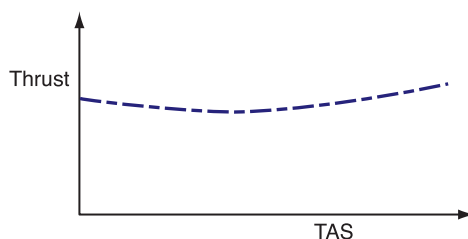

Figure 1–8 Thrust of a jet engine.
- 1.13** As the velocity of a jet engine increases from zero the difference between the relative airflow velocity and the jet exhaust velocity reduces leading to reducing thrust (less acceleration of the air mass flow). However, while the overall acceleration of the air mass flow is decreasing, compression of the relative airflow at the engine intake increases the mass flow rate through the engine. The net result is a slow decrease in the thrust to a certain speed before recovering due to the proportionally larger increase in air mass flow. For practical purposes, the thrust of the engine is essentially constant as airspeed increases (Figure 1–8).